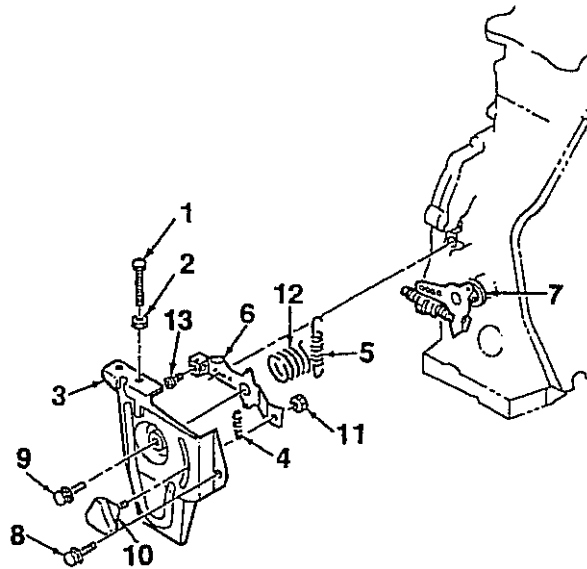

Figure 1. Throttle Plate.
1. Remove adjusting screw (1) and washer (2) from the assembly (3). See Figure 1.
2. Note the location of the spring attachments (4,5, and 12) on the control handle (6).
3. Remove assembly (3) from the engine block by removing screw (8).
4. Remove screw (9), knob (10), and nut (11). Remove screw (13) and spring (12).
1. Install screw (13) onto control handle (6). See Figure 1.
2. Install handle to the assembly (3) and install screw (9), knob (10), nut (11), and spring (12).
3. Install assembly (3) to the engine block and install screw (8).
4. Connect springs (4,5) to handle (6) and lever (7).
5. Install screw (1) and washer (2).